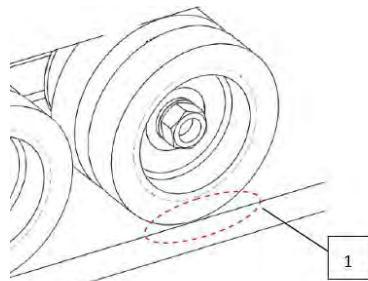

Fig. 36: Reset counter
Step 1: Align the feed unit with the table (Pos. 1, Fig. 36) and tighten all clamping levers.